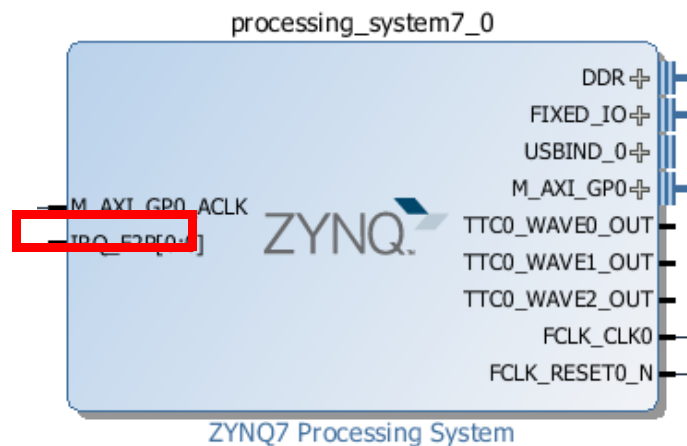

Figure 2.17: Zynq PS with interrupt port
- (m) Make a connection between the interrupt request of the **GPIO** block and the newly created interrupt port of the **Zynq PS**, highlighted in Figure 2.17.